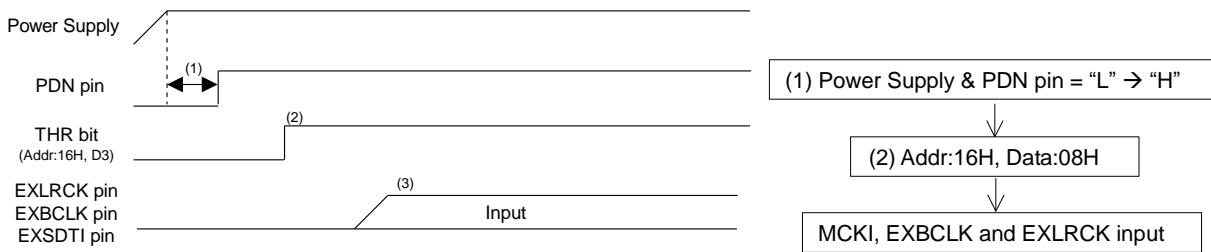

Figure 51. Clock Set Up Sequence (7)
57	Control Sequence (MIC Recording) Figure 51 (7) Data=01H → 04H (2) 72H&73H → 12H&13H (3) 7AH → 1AH (4) 7BH → 1BH (5) 7CH → 1CH